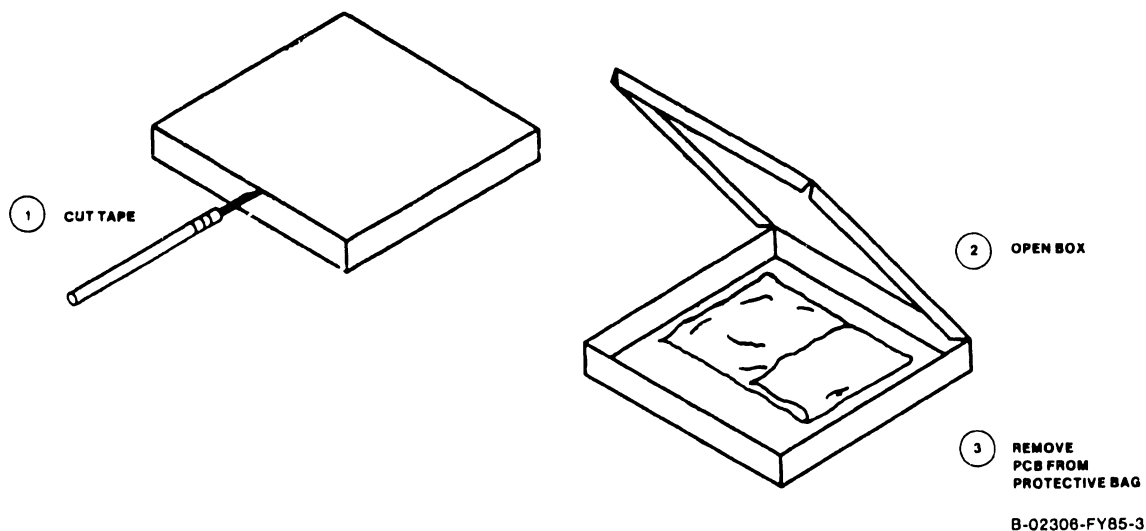

Figure N2-1 Unpacking the 32 Port Serial Controller Board
3. Open the box and remove the PC Board as shown in Fig. N2-1.